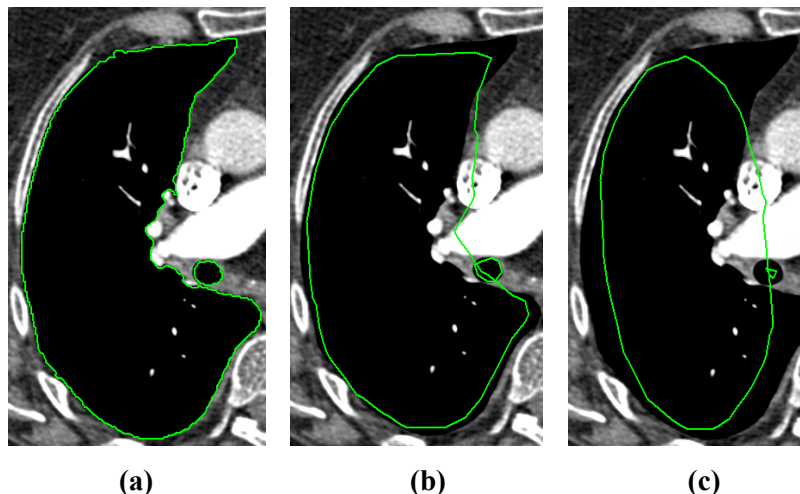

Figure 237 – (a) Source ROI, (b) smoothen ROI (1st applied), (c) smoothen ROI (5th applied)
4. Click the **Apply** button as many times as necessary to achieve the desired setting. The result is immediately displayed in the current view (see Figure 237).